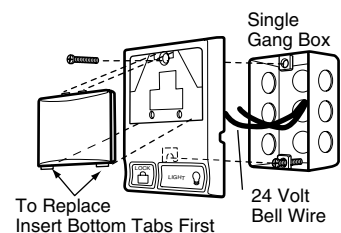

Figure 3 MULTI-FUNCTION DOOR CONTROL (BACK)
- Strip 7/16" of insulation from one end of bell wire and connect to the two screw terminals on back of door control by color: white wire to 2 and white/red wire to the 1 (Figure 3).